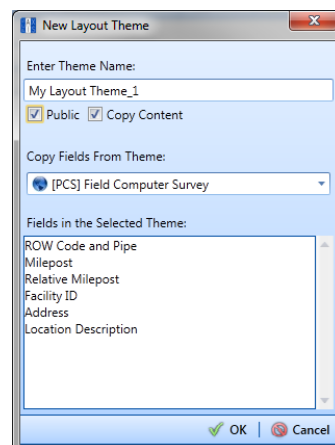

Figure 13-26. New Layout Theme
- 6 Click the **Customize** tab  then the  **Add** button to open the *New Layout Theme* dialog box (Figure 13-26).